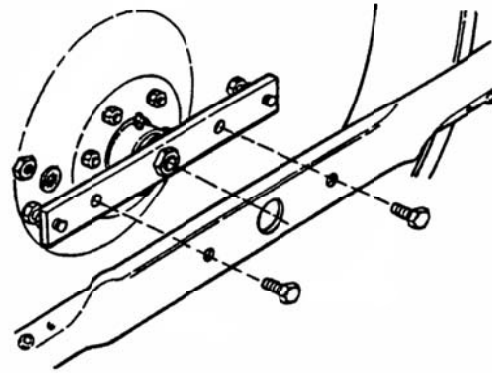

Figure 24. Blade Removal - 33" Deck
2. See Figures 24 and 25. Remove blade to inspect it or to safely access the underside of the mower deck. Use a block of wood to prevent blade rotation while loosening the hardware by turning it counterclockwise.
4. Alternately tighten the adjustment nuts (B, Figure 24) until the rotor face and armature face just contacts the gauge.